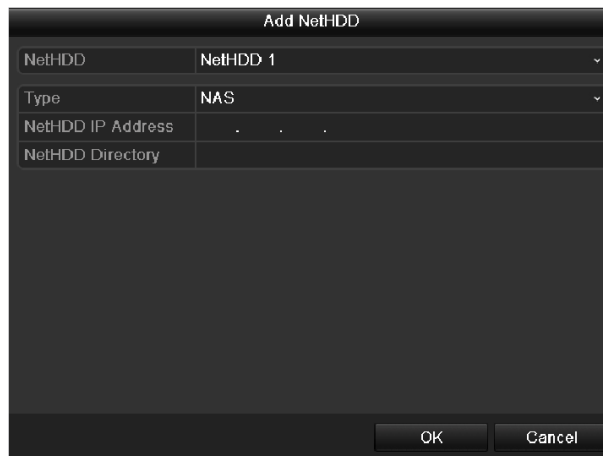

Figure 14-7 HDD Information Interface
Step 2 Click the **Add** button to enter the Add NetHDD interface, as shown in Figure 14-7.